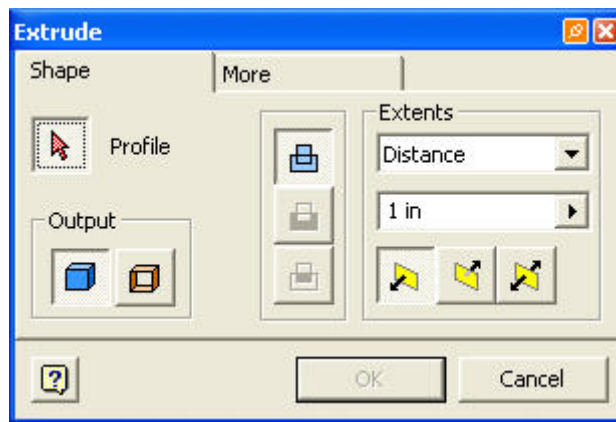

Figure 9
7. The **Profile** button should be selected as shown in Figure 9.